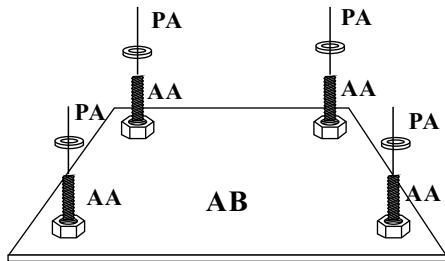

FIGURE 1A
- A. Slide a 5/8" Flat Washer (PA) over each of the J-Bolts (AA) in the corners of the J-Bolt Template (AB) as shown in FIGURE 1A.
- B. Slide a 5/8 Flat Washer (PA) over each of the J-Bolts(AA).